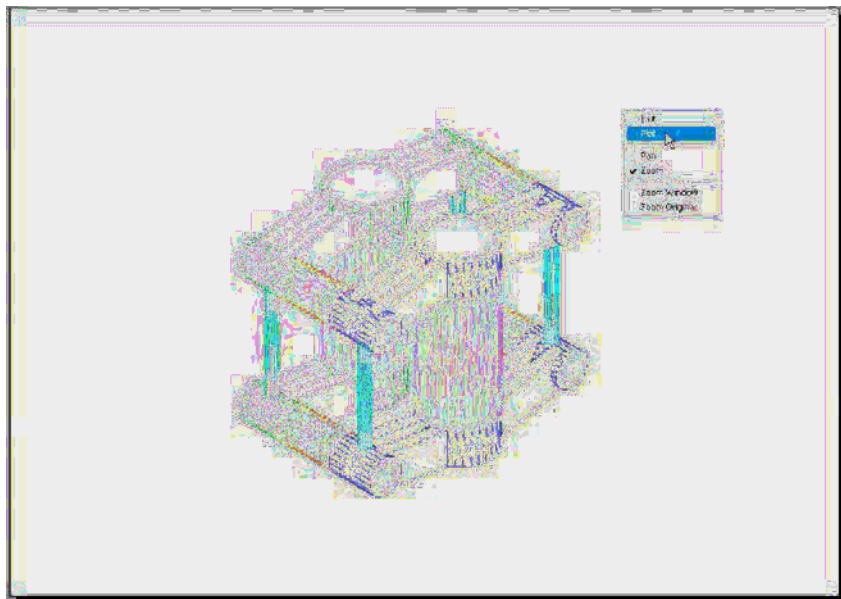

Fig. 19.10 Third example – Printing/plotting
Third example – **Printing/plotting** (Fig. 19.10)
4. If satisfied with the preview (Fig. 19.10) right-click and click on **Plot** in the menu which appears. The drawing plots.